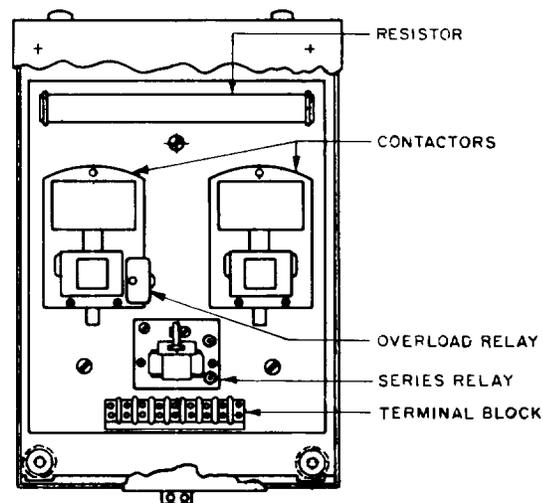

Fig. 1—General View of Starter (KS-15868 L1 starter shown)
2.01 Figures 1 through 10 included in this part show the various parts in their proper relation to other parts of the apparatus, together with the name of the parts which it is practicable to replace in the field.